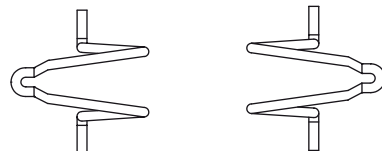

Fig.32
- Pair of connector retention clips HZZ01209-G; see fig. 32